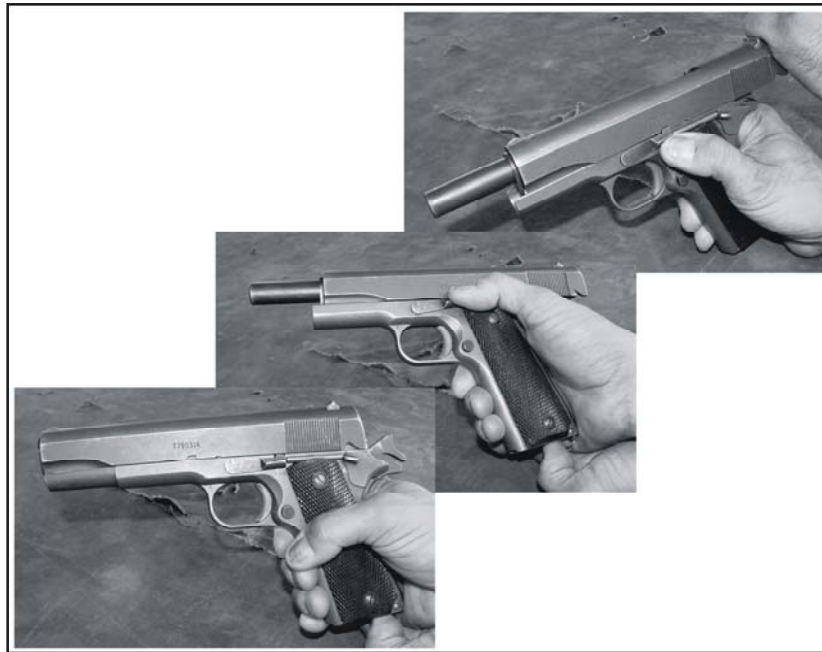

Figure 15. Cocked Hammer Check
- Push down on the safety so that it moves out of the notch on the slide (Figure 15).
- Pull the slide all the way to the rear, and engage the slide stop (Figure 15).
- Push down on the slide stop. Let the slide go forward (Figure 15).
- Check the hammer to see if it stayed cocked (Figure 15).